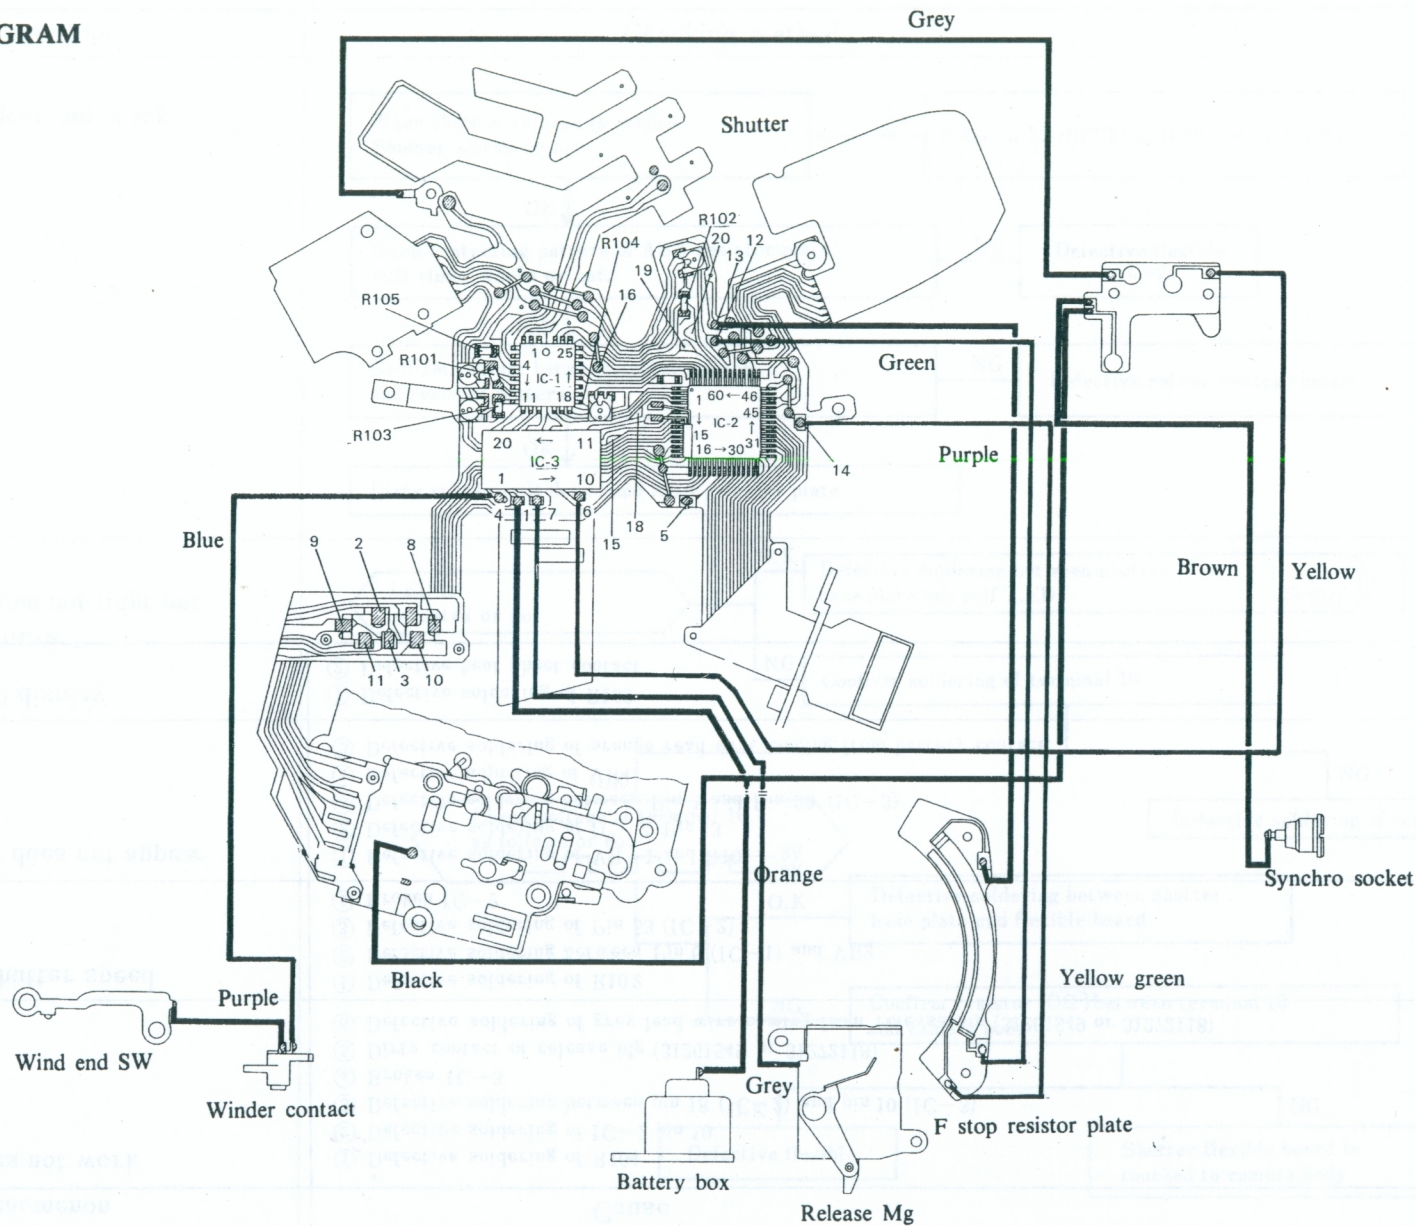

Fig. 63
1) Checking method of Shutter trouble or Flexible (circuit board) (see Fig63)